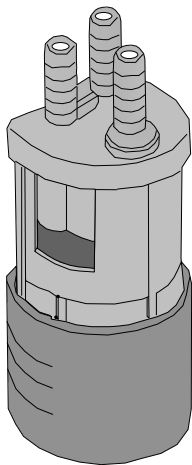
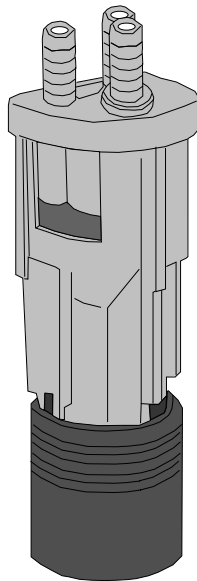

Fig.1
Fig.2
1. The AG100-003 unit is truly unique as its design permits quick and easy mounting over the top lip or inside the top end of the drainage standpipe. It works well with exposed standpipes or within the recessed wall boxes. AG100-003 fits on the outer rim or inside of 1-1/2-inches or 2-inches standpipe (metal or plastic). When in use, always mount the unit vertically at the top end of the drainage standpipe as pictured in Fig.1 and Fig. 2